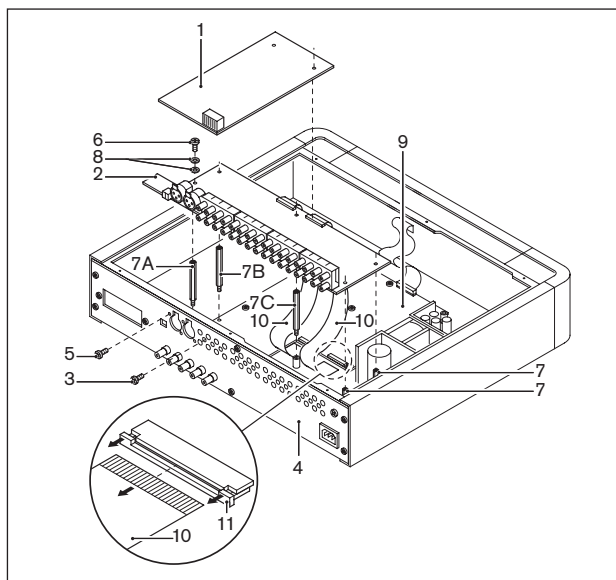
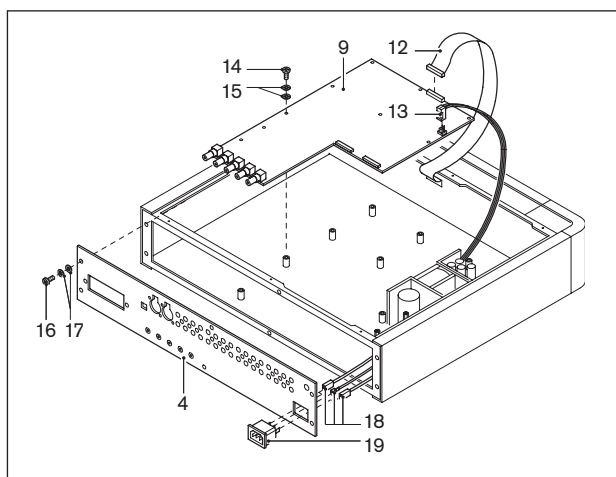

Figure 2.7 Removing the main PCB and the rear panel (steps 1 - 5)
Figure 2.8 Removing the main PCB and the rear panel (steps 6 - 8)
Follow the instructions below to remove the main PCB and the rear panel. The numbers refer to figure 2.7 and figure 2.8.
2. If the transmitter contains an interface module (1): Remove the interface module proceeding in reverse order of mounting. The mounting instructions can be found in section 2.2.2. Note that the distance studs of the transmitter module can remain in place.
4. Remove the analogue input/output PCB (2):
- Loosen the screws (3) between the cinch plugs on the rear panel (4). The number of screws depends on the transmitter type.
- Loosen the screws (5) at the XLR connectors on the rear panel.
- Loosen the screws (6) of the distance studs (7) of the analogue input/output PCB. Do not lose the (spring) washers (8).
- On the main PCB (9) detach the flexible cables (10) to the analogue input/output PCB. To this end release the catches (11) on both sides and pull out the flexible cable. See inset in figure 2.7.
6. On the main PCB (9):
- Detach the user interface cable (12).
- Detach the power supply connector (13).
- Loosen the screws (14) of the distance studs. Do not lose the (spring) washers (15).
8. Remove the rear panel (4):
- Loosen the screws (16). Do not lose the (spring) washers (17).
- Pull the connectors (18) of the mains inlet wires and the earth wire out of the mains socket (19).